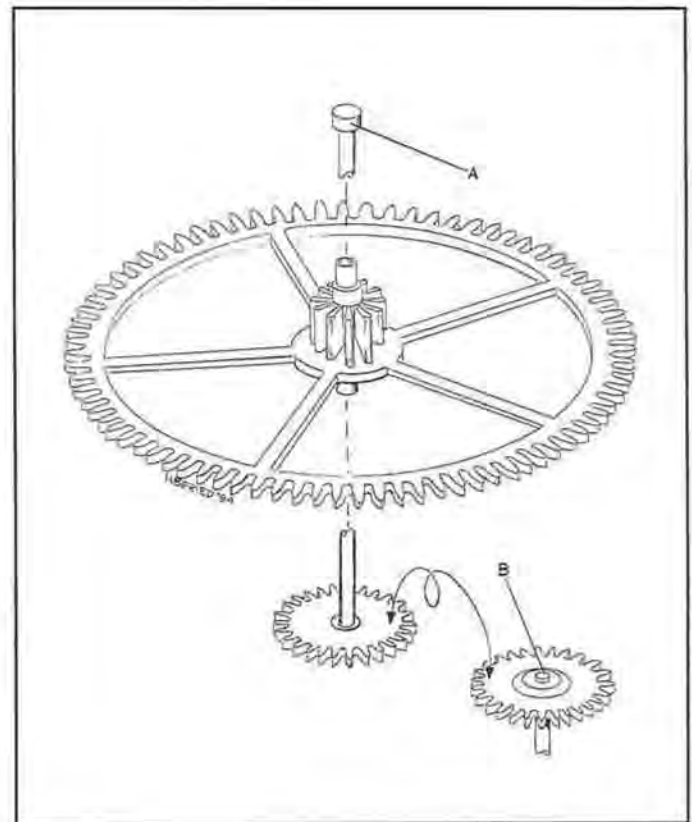

Figure 14.
Turn the movement over to the movement side and replace the carriage fourth wheel and its arbor (E). Now turn the movement over again to the dial side and mount the wheel (D) onto the tapered arbor of the carriage fourth wheel (B). (See Figure 14.) Doing so now will relieve the carriage's fourth wheel bridge jewel of stress that occurs while pressing down on the arbor to secure the intermediate fourth wheel (D).